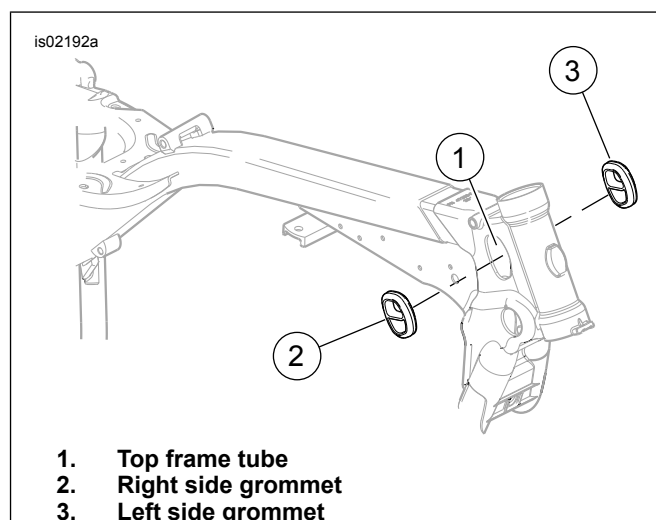

Figure 1. Top Frame Tube Access Location
1. See Figure 1. At the top frame tube (1), remove the right (2) and left (3) side grommets to access the turn signal connectors.